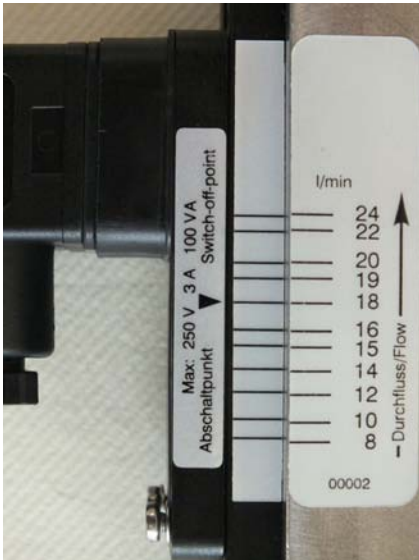

Fig. 32: Reading-off the switch point (sample scale)
1. Make sure that the setting arrow, the scale mark on the additional label on the guide rail and the scale mark of the switchpoint adjustment scale are in alignment. (Fig. 32)